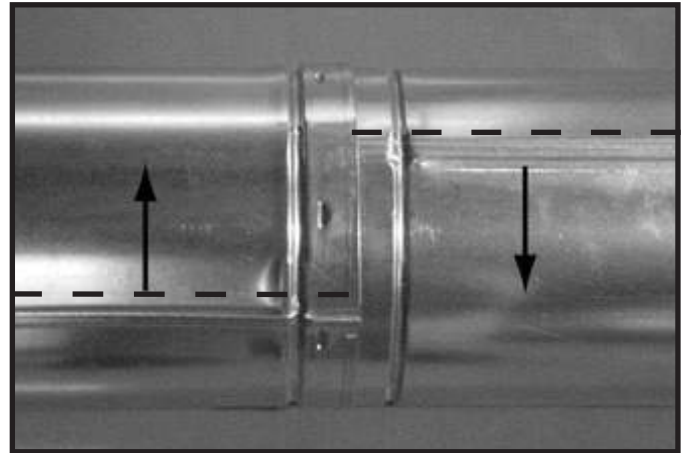
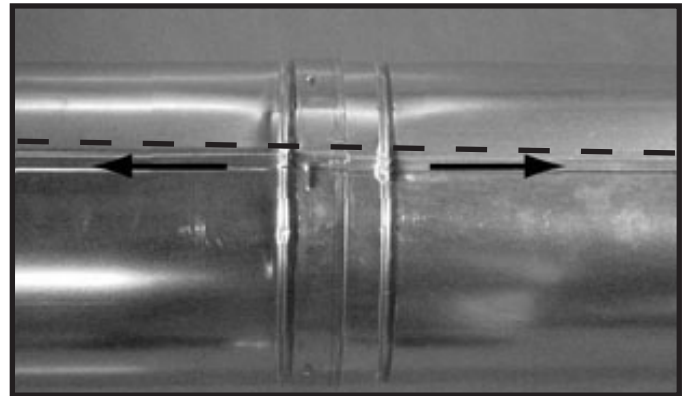

Figure 7.7 Rotate Seams for Disassembly
Figure 7.8 Align and Disassemble Vent Sections
- Rotate either section (see Figure 7.7) so the seams on both pipe sections are aligned as shown in Figure 7.8.